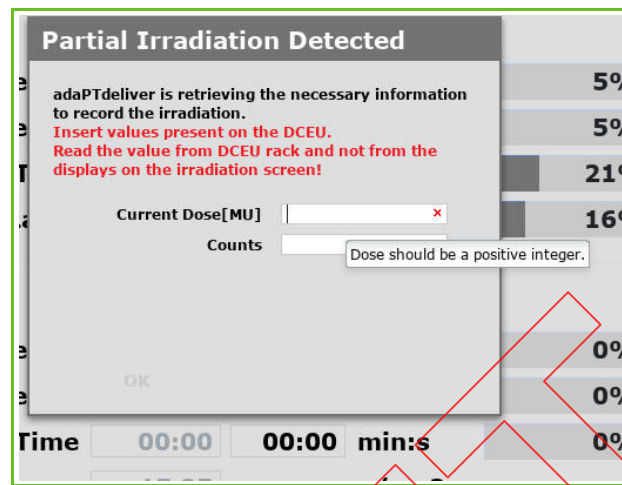

Figure 41-4. Recovery after termination by PTS - Automatic recovery process (online)
1. In the popup message, type in the values of the MU delivered and dose counts from the DCEU (Figure 41-4). Click **OK** to continue and proceed to section "Resuming Irradiation".